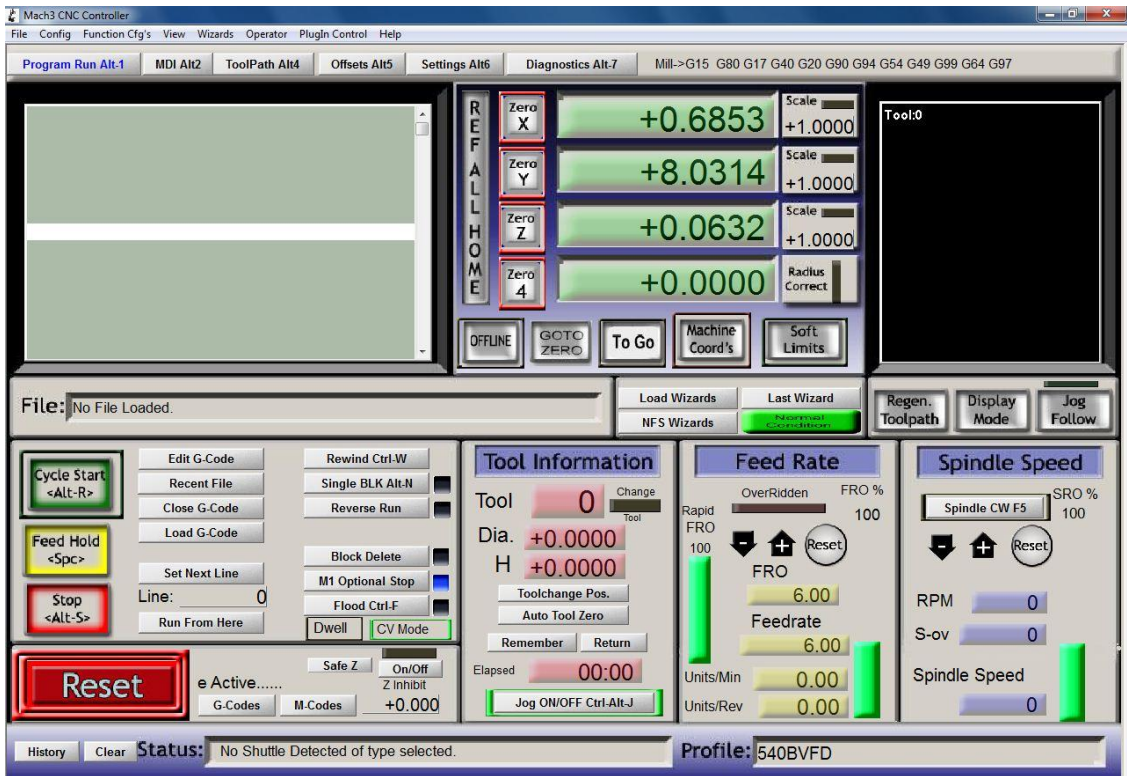

Figure 7: Main Screen, Motor Power OFF.
3. Once Mach3 loads, you will be greeted with the following screen, figure 7. Note: If the motor power switch (NOT THE SPINDLE POWER SWITCH) on the Plexiglass controller box is off, the “Reset” button will be red and no shuttle will be detected, prevention the execution of any G-code. If this is the case, turn on the motor power switch and click the reset button in the Mach3 menu. If the button remains surrounded by red, an error has occurred. Otherwise, continue.